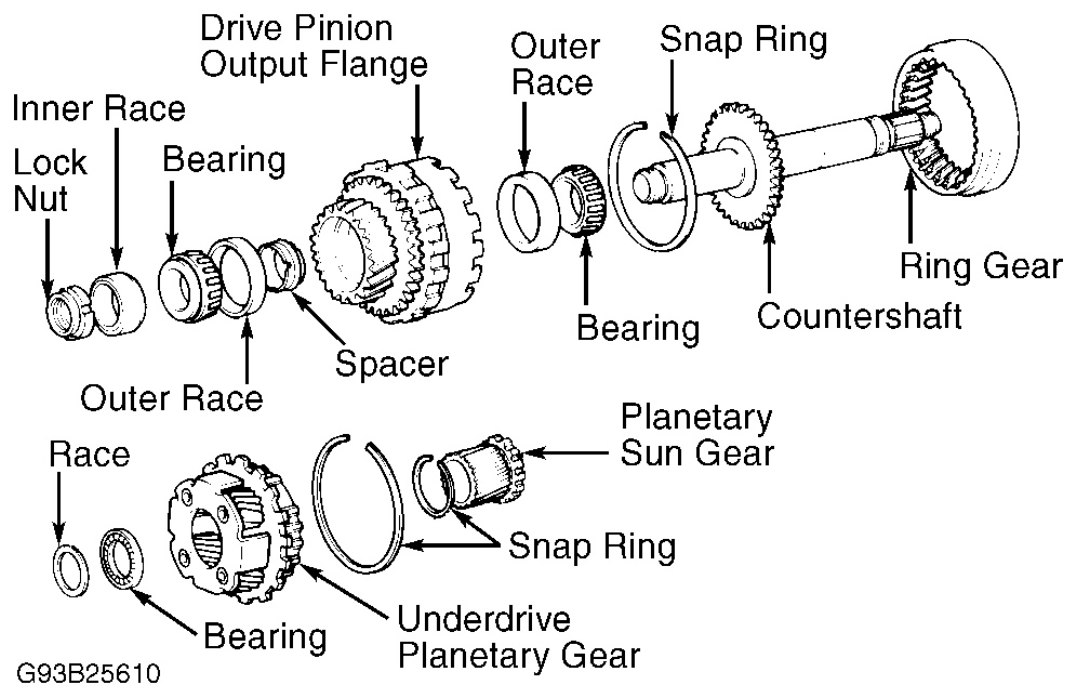

Fig. 45: Exploded View Of Countershaft Assembly
1. Remove planetary sun gear from countershaft. Remove snap ring from sun gear and countershaft assembly. Remove underdrive planetary gear, thrust bearing and race. See **Fig. 45**.
1. Press bearing of thick inner race on countershaft. Install ring gear and snap ring to countershaft. Install bearing outer races to drive pinion. Press thick bearing race into flange side of drive pinion. Using adapters, press thin bearing race on remaining side of drive pinion. See **Fig. 45**.
6. Using a punch and hammer, stake lock nut. Remove counterdriven gear. Install thrust bearing and race "H". See **Fig. 87**. Install underdrive planetary gear and snap ring. Install snap ring to sun gear. Install planetary sun gear to countershaft. See **Fig. 45**.